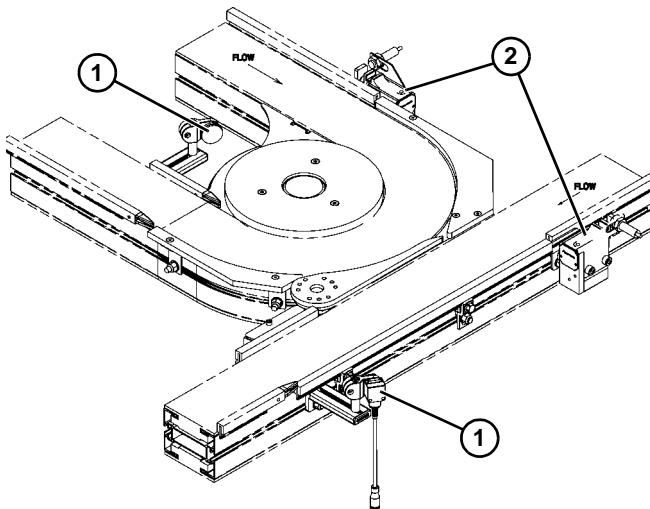

Figure 39
A photo eye kit (**Figure 39, item 1**) can be mounted in a manner that will sense pallets in the divert zone.
- Once pallet has cleared the photo eye, the traffic control stops (**Figure 39, item 2**) can allow a new pallet into the zone.